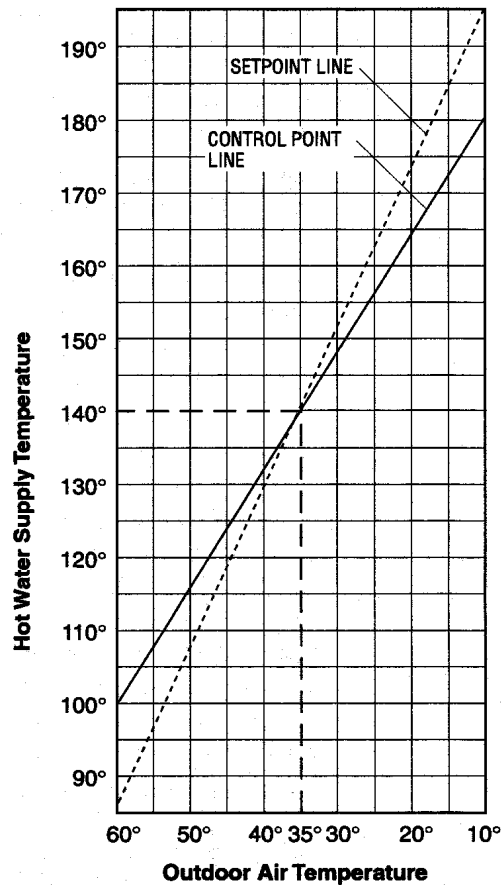

Figure-5 Graph of Sample Reset Schedule.
4. Turn the control point adjustment until the scale corresponds to the required temperature indicated by the input temperature at port R. Temperature (or other secondary transmitter input) at port R must be within the desired reset schedule to allow for proper calibration. To determine the correct supply temperature, it is necessary to draw a graph of the reset schedule as shown in Figure-5.
Examples: Use reset schedule shown in Figure-5, Which corresponds to our example schedule shown in Table-4.